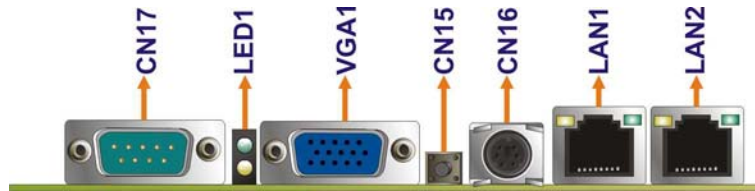

Figure 4-21: WAFER-CX700M External Peripheral Interface Connector
Figure 4-21 shows the WAFER-CX700M external peripheral interface connector (EPIC) panel. The WAFER-CX700M EPIC panel consists of the following:
- CN Location:** See Figure 4-21
- CN Location:** See **Figure 4-21**